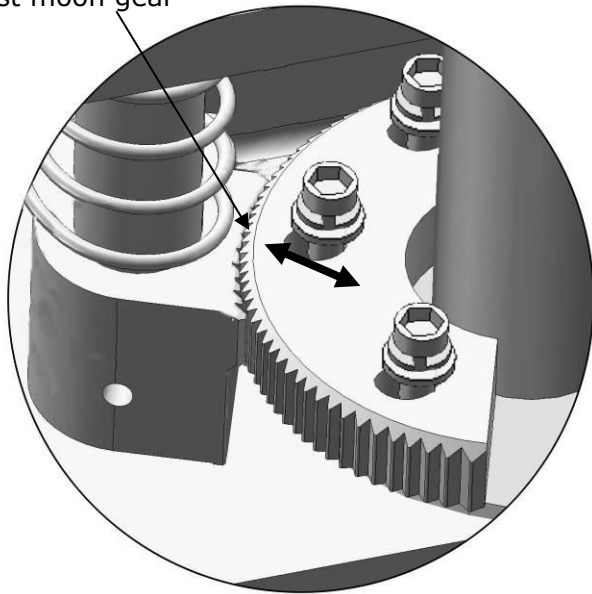

Fig. 25
3. Adjust the moon gear as arrow direction (**See Fig. 25**).